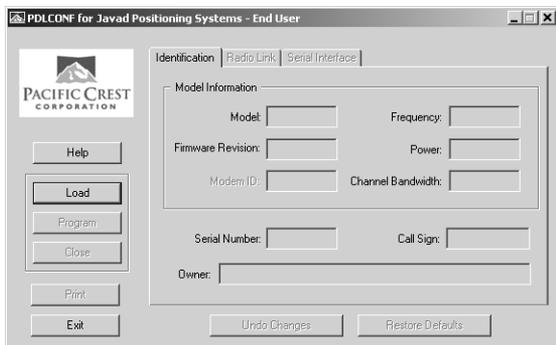

Figure 2-25. PDL Radio Configuration Main Screen
6. Run the PDL Radio Configuration Program (pdlconf.exe) from Pacific Crest (Figure 2-25 on page 2-30).